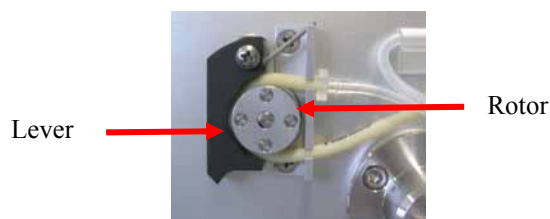

Fig. 15: Peristaltic pump
**i Please note:** Verify that the peristaltic tubing is engaged in the peristaltic pump before you turn on the pump for the first time. (The peristaltic pump is installed at the top left in the pump enclosure (e.g. → Fig. 1, page 12) behind the liquid reservoir for the rear-seal wash system.) The tubing under the peristaltic pump lever remains compressed and does not relax, thus blocking the wash solution. This can happen if the pump is not running for a longer period, e.g., during shipment. That is why the pump is shipped with the active rear-seal wash tubing bypassing the peristaltic pump. We also recommend pulling the tubing out of the peristaltic pump (→ Fig. 15) if the pump is not running for more than five days. To remove the tubing, slightly press the lever leftward, remove the tubing, and release the lever.